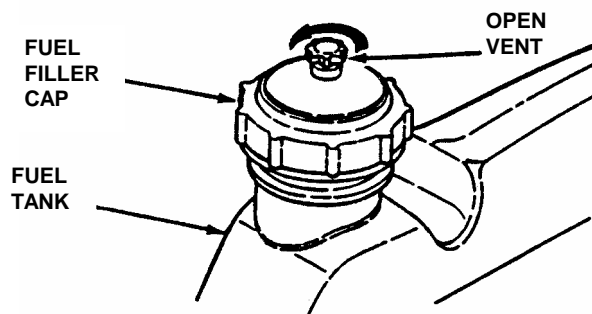

FIGURE 2.6
4. Open vent on fuel filler cap by turning counterclockwise. **IMPORTANT:** Failure to open vent on the fuel filler cap can cause engine to stall. See Figure 2.6.
1. Move transmission shift lever to (N) Neutral position. DO NOT start engine with transmission shift lever in a drive position.
4. Open vent on fuel filler cap by turning counterclockwise. NOTE: Failure to open vent on the fuel filler cap can cause engine to stall. See Figure 2.6.